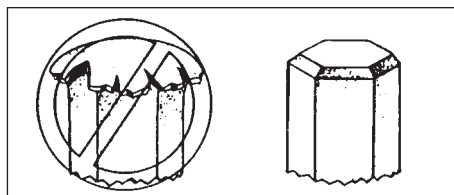

Figure 21.1
**Prevent mushrooming.** Tools which are struck by hammers, such as chisels or punches, should have the head ground periodically to prevent mushrooming. See Figure 21.1